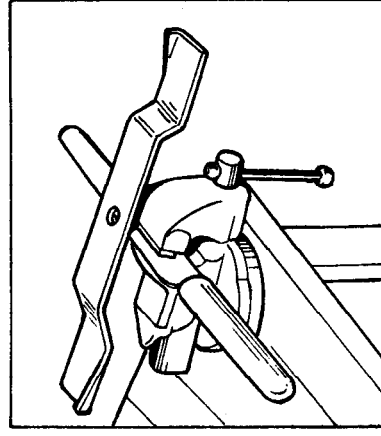

Fig. 5 Balancing blade on a suitable straight edge
**To balance blade.** A blade may become off balance by excessive wear or nicks on one end by accidentally hitting a large stone, iron pipe or roots. If this happens stop the mower, disconnect the sparking plug lead and check the blade at once. A badly nicked, worn or bent blade will cause excessive vibration that may do serious damage to the engine or crankshaft. Blade balance may be checked as shown in Fig. 5 (above). If the blade fails to balance, grind or file off the heavy end.